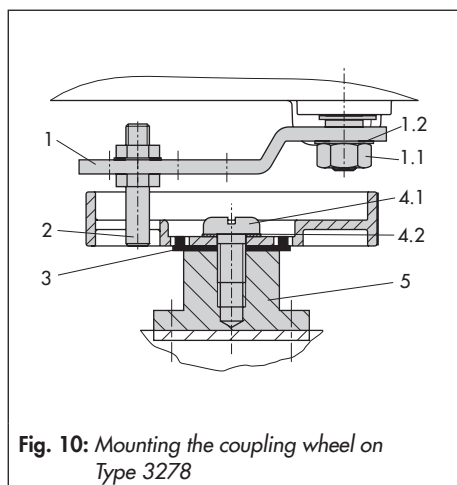

Fig. 10: Mounting the coupling wheel on Type 3278
## Legend for Fig. 10 and Fig. 11
- 3 Follower clamp (Fig. 10)